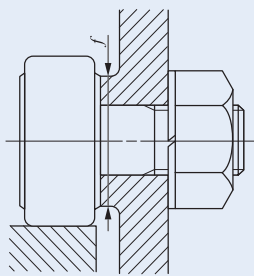

Fig. 1 Seating surface
① Make the center axis of the mounting hole perpendicular to the moving direction of the Cam Follower and match the side shoulder accurately with the seating surface indicated by dimension  $f$  in the table of dimensions. (See Fig. 1.) Then, fix the Cam Follower with the nut. Do not hit the flange head of the Cam Follower directly with a hammer, etc. This may lead to a bearing failure such as irregular rotation or cracking.